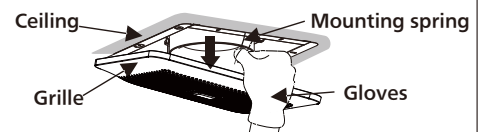

Fig.16
2.Remove one mounting spring. (Fig.16)